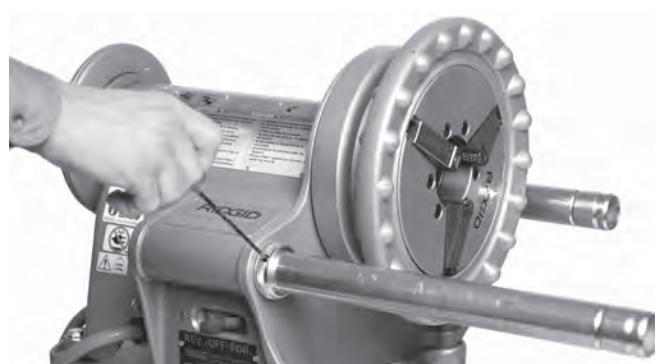

Figure 8 – Set Screw Location
1. Extend Support Bars fully forward. Push Retaining Rings back until they rest against the 300 Power Drive body. Tighten Set Screws in Retaining Rings with a  $1/8"$  hex wrench (*Figure 8*).